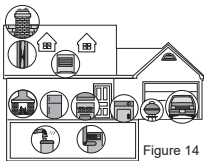

Figure 14
- 2)Spaces where CO is easily present (refer to Figure 14), fuel burning appliances like portable heating appliances, gas or wood burning fireplaces, gas stoves, gas dryers.